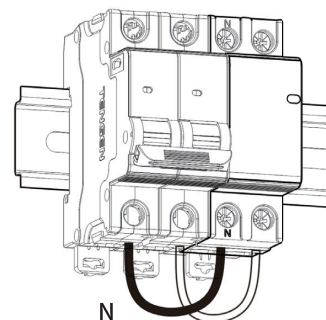

Fig. 3 Wiring diagram
- 6.2 Correctly connect the wire according to the incoming and outgoing terminals marked on the product, and tighten the fastening torque according to the rated torque to prevent the electrical failure due to poor contact. The wiring diagram sees Fig. 3.